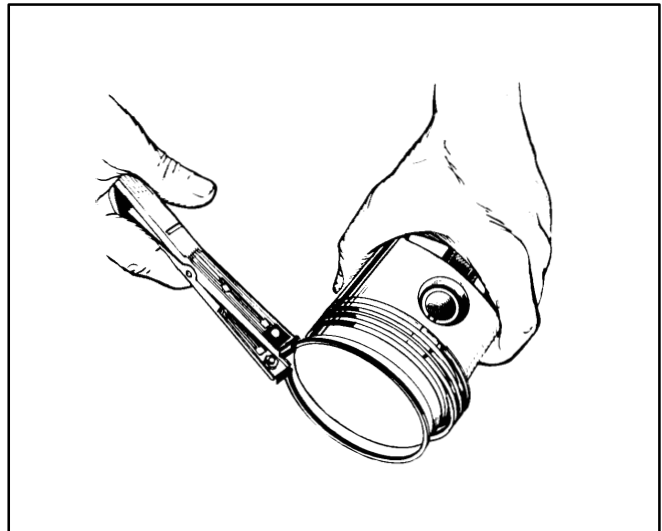

FIGURE 77. PISTON RING SPREADER
5. The pistons are fitted with two compression rings and one oil control ring. Remove these rings from the piston using a piston ring spreader (Figure 77).